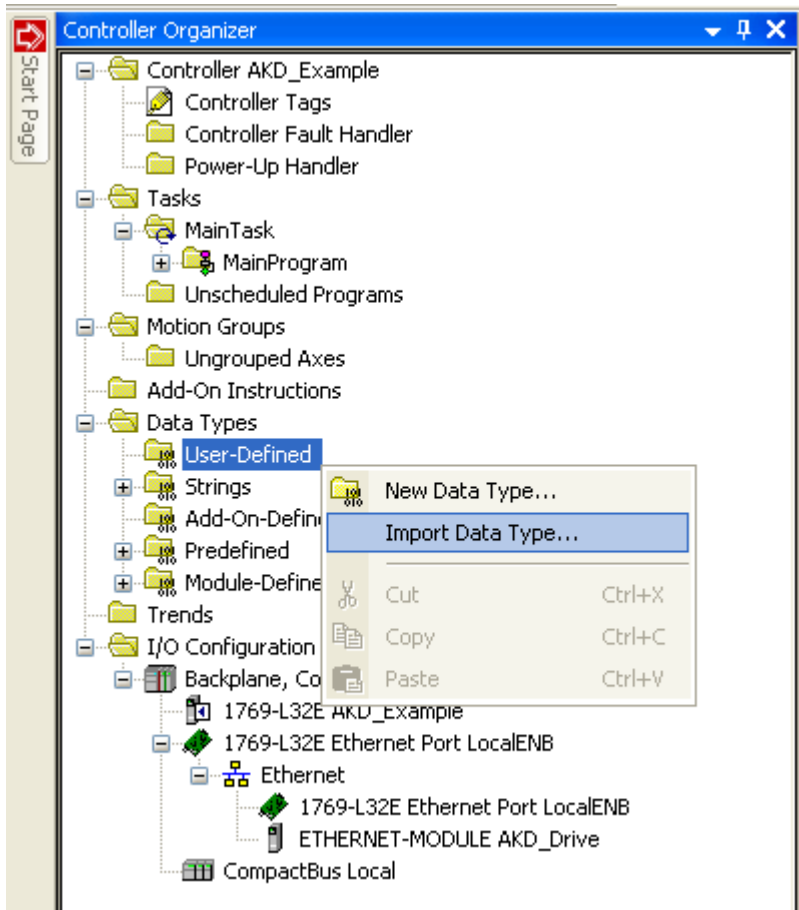

Figure 5-6: Importing Data Types
2. Right click the “User-Defined” folder under “Data Types” and select “Import Data Type...” (Figure 5-6: Importing Data Types)